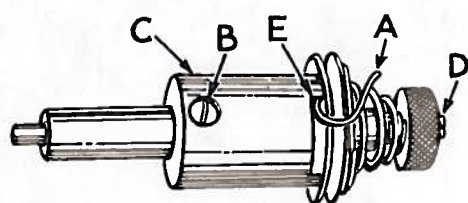
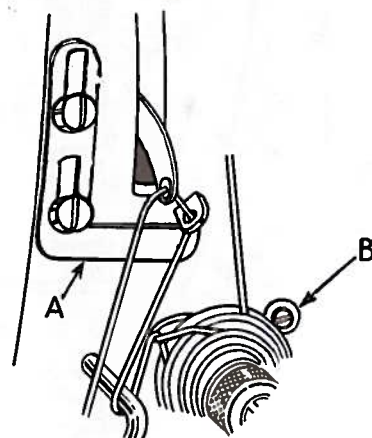
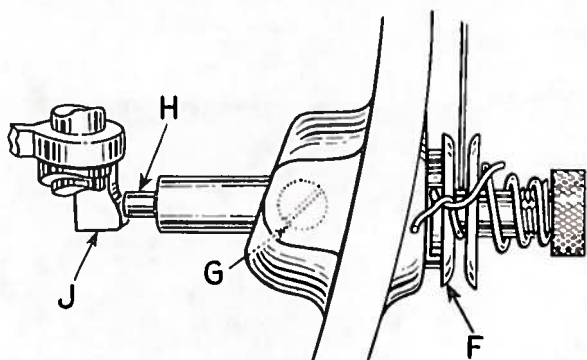

Fig. 10
Fig. 11
Fig. 12
Test check spring tension (A, Fig. 10). There should be enough tension to insure a good returning snap when spring is depressed and released. Should it require adjusting, loosen set screw in the head on right side of tension post (G, Fig. 12) and remove tension post assembly. Partially loosen tension post set screw (B, Fig. 10) in tension post socket (C). Holding the socket in the left hand, turn the tension post (D) counterclockwise with the right hand until
The frame take-up eyelet (A, Fig. 11) should be set at its highest position.
The tension assembly should be located in bed from front to back, so that when the presser foot is raised to its highest position, the tension discs (F, Fig. 12) are opened just enough to allow the thread to pass through the discs freely.
Re-tighten set screw (G), turn tension assembly adjusting screw (B, Fig. 11) counterclockwise until it contacts the flange of the tension post socket.
To position the tension assembly, see that set screw in bed (G, Fig. 12) is loose and tension assembly adjusting screw (B, Fig. 11) is screwed down to the bed.
Lift the presser foot hand lifter to its highest position. With the left hand, grasp the thread and pull it through the tensions, with the right hand, push tension post deeper into the machine until release pin (H, Fig. 12) pressing against the presser bar connection (J) has opened the tension discs just enough to allow the thread to pull through freely.